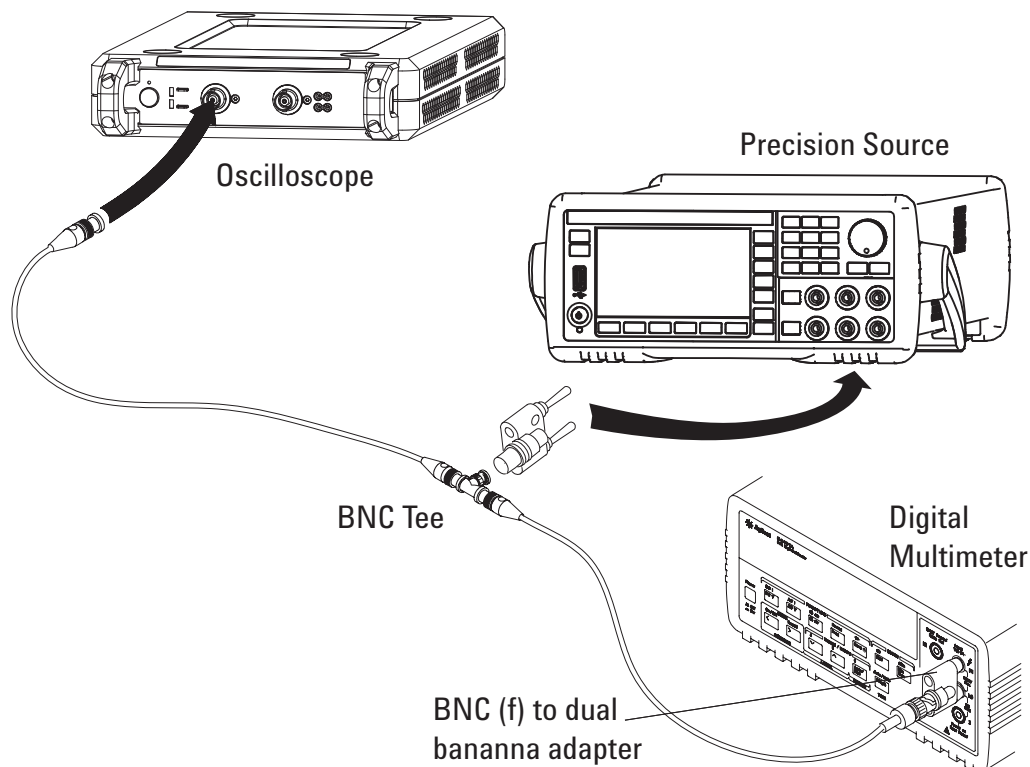

Figure 3 Setting up Equipment for Dual Cursor Accuracy Test
- 7 Use the BNC tee and cables to connect the precision source /power supply to both the oscilloscope and the multimeter (see **Figure 3**).